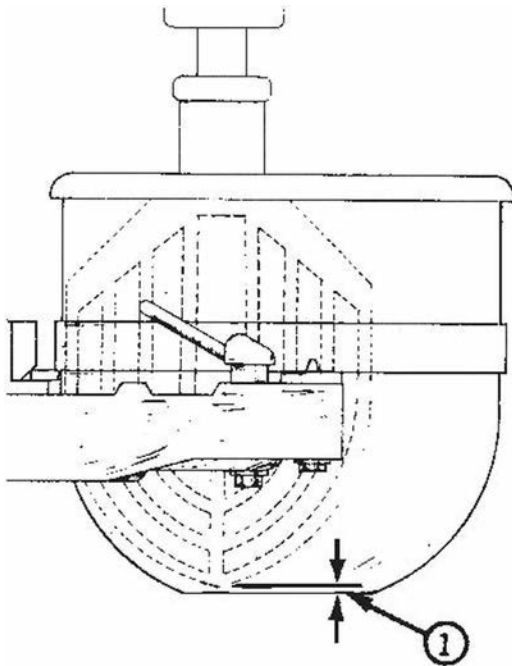

Fig 7-1
(2) Check the clearance between the bottom of the beater and the bowl (1, Fig. 7-1). This clearance should be no more than 3/32".